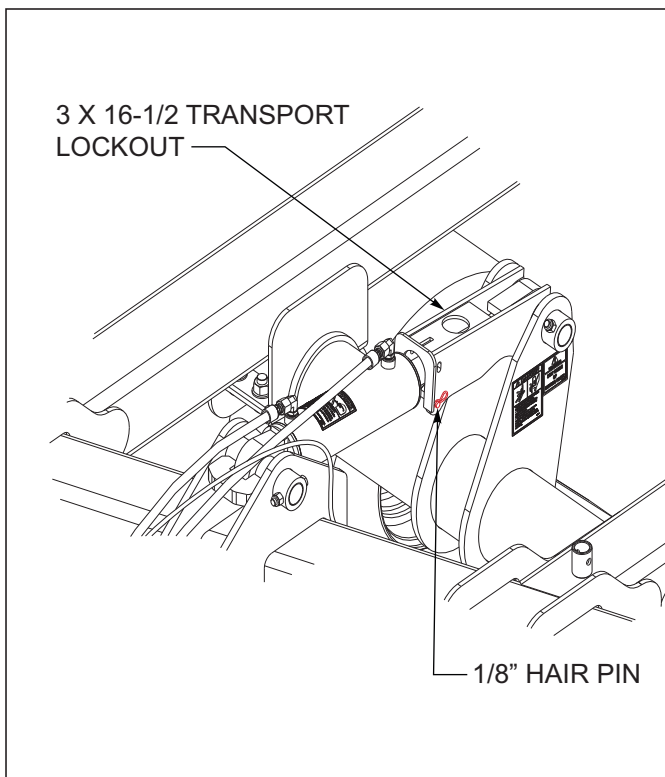
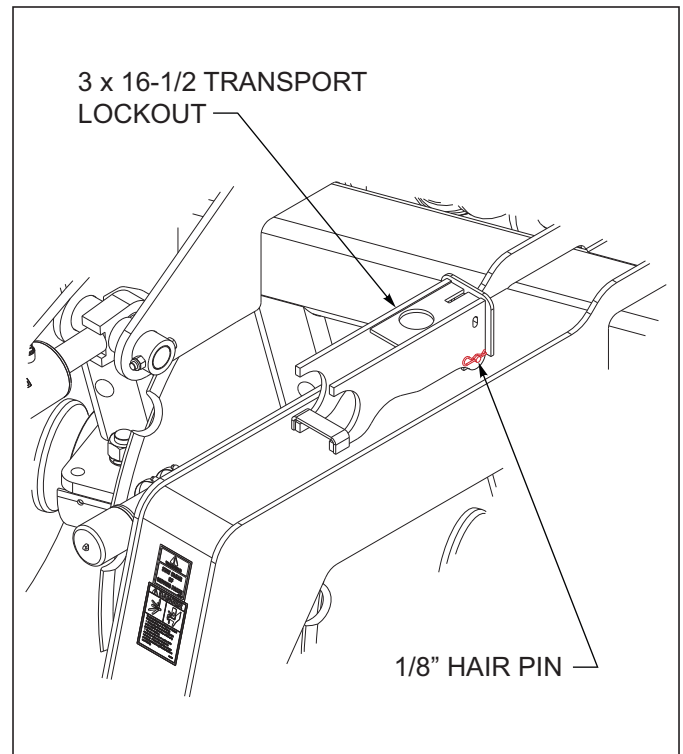

Figure 4-3: Installed Transport Locks
Figure 4-4: Stored Transport Locks
1. The hydraulic system will be filled with oil and fully charged. Carefully hitch the 6510 to the tractor and connect the hydraulic lift hoses. Check to make sure the tractor hydraulic reservoir is full of the manufacturer's recommended oil. Lower and raise the unit to verify that the system is operating correctly. Recheck tractor reservoir to make sure it is within operating limits. With the lift cylinder fully extended, install the 3 x 16-1/2 transport lockout See Figures 4-3. Storage location for lockout See Figures 4-4.
1. Raise the unit to take the weight off of the transport locks. Remove the transport locks from the lift cylinders. Store the transport locks on the retainers on the top of the frame. See Figure 4-4.